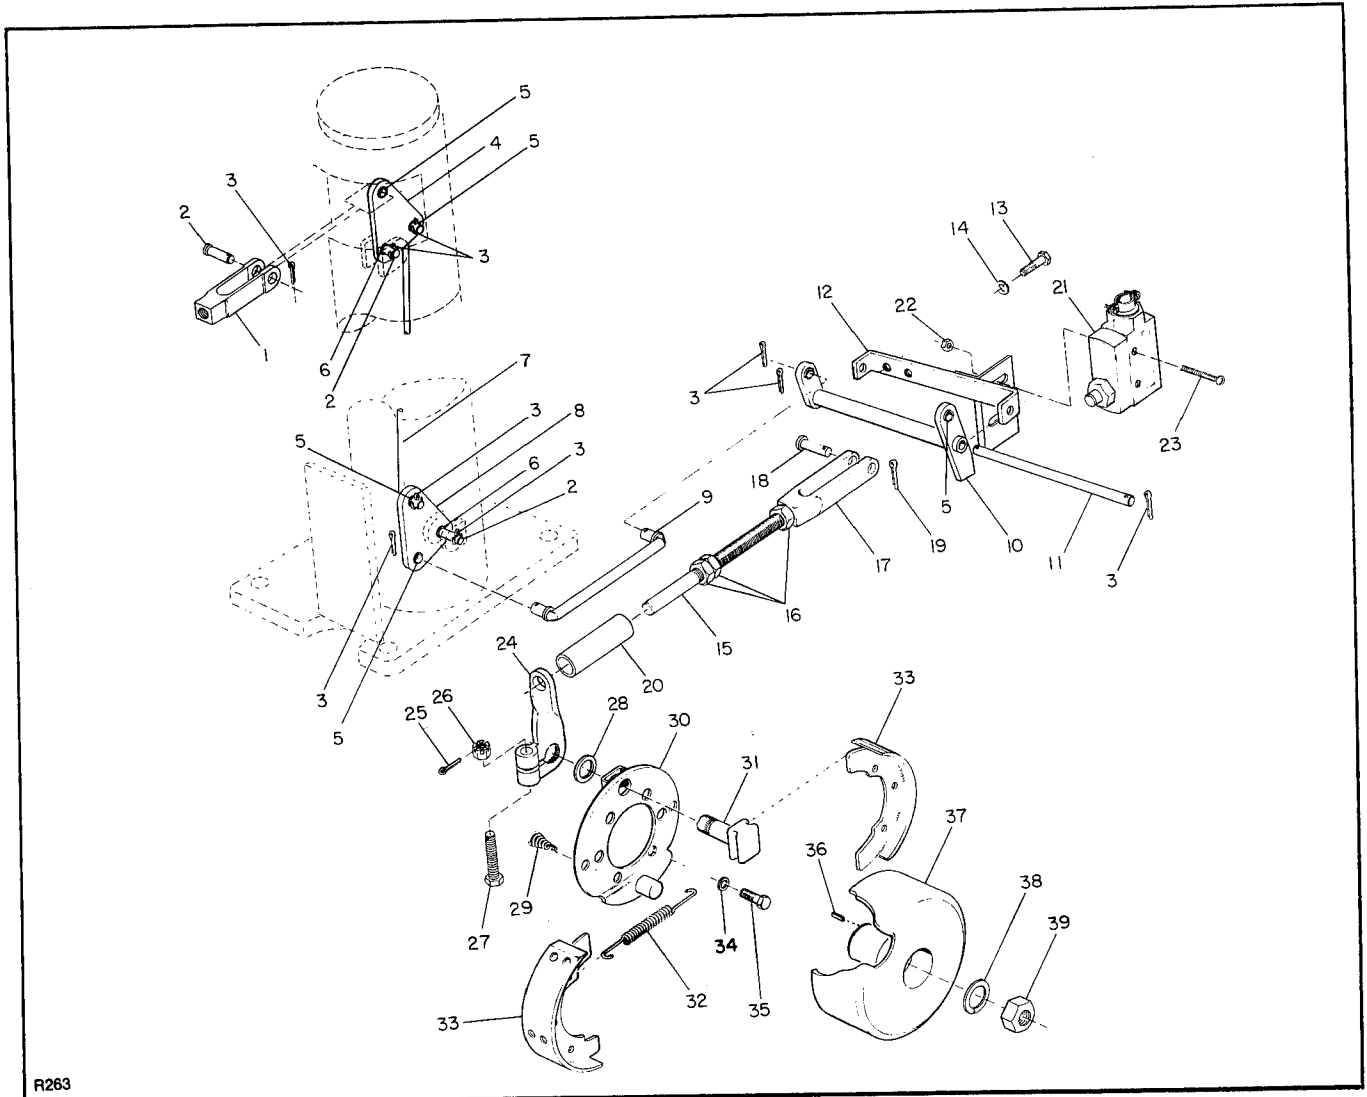
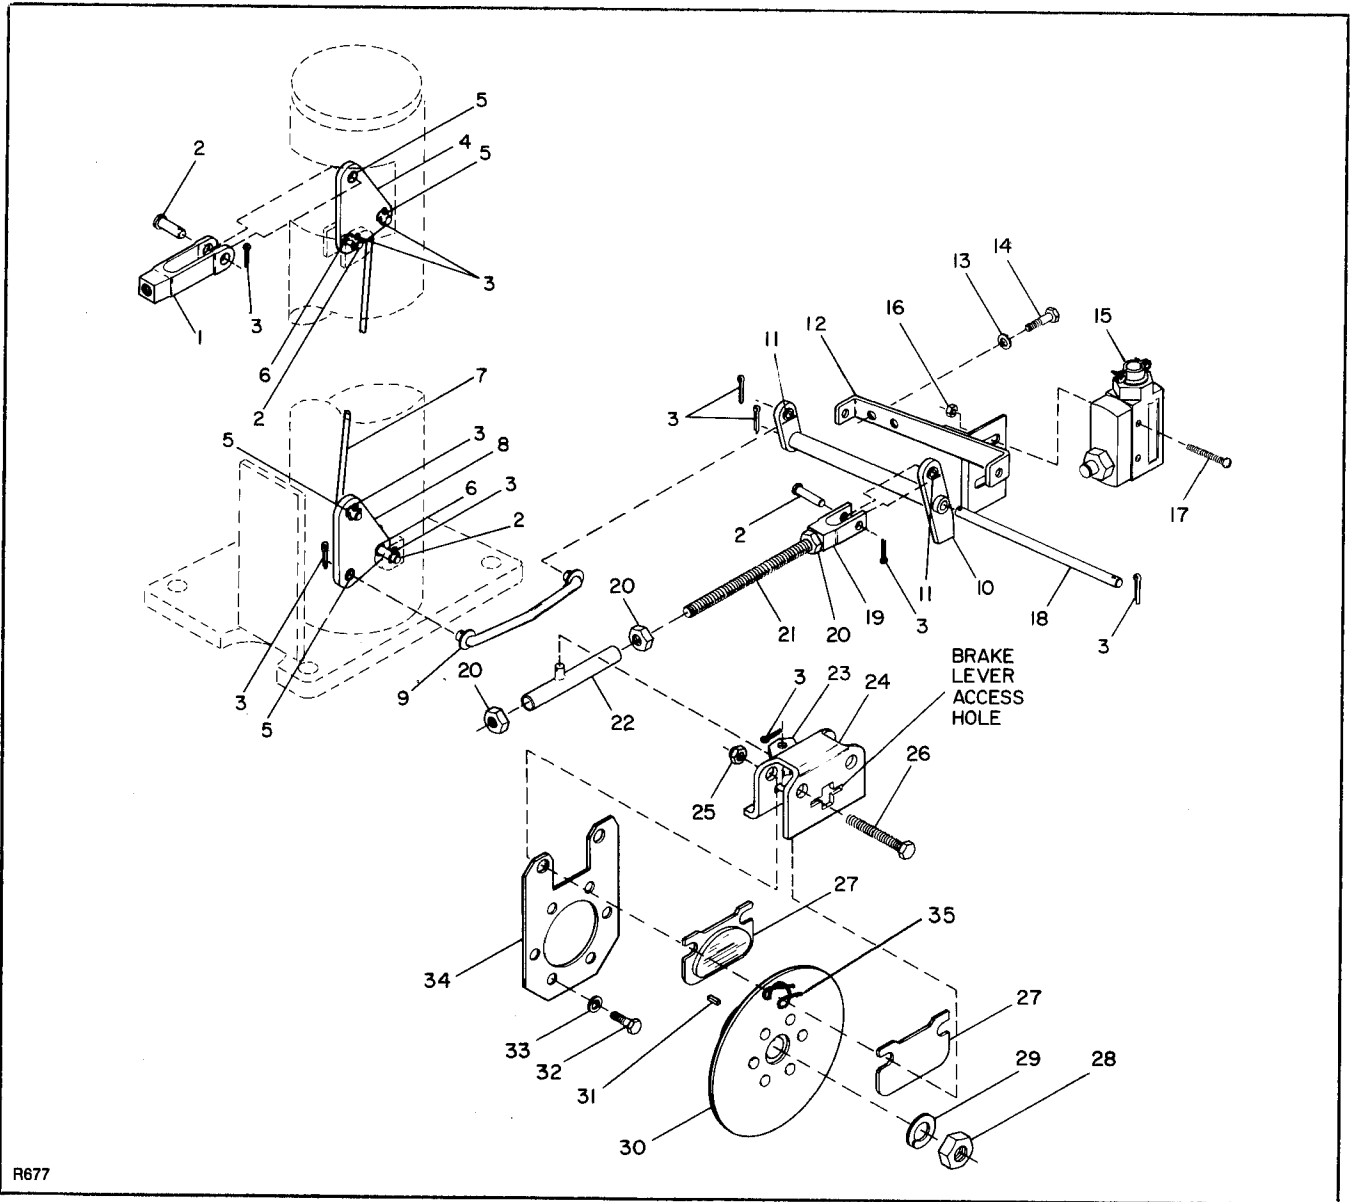

Figure 3-8. Drum Brake and Linkage (Serial Number 70595 and Lower)
Figure 3-9. Disc Brake and Linkage (Serial Number 70596 and Higher)
5. Spin drive wheel by hand and position weldment tube (1) by adjusting nuts (2) until you feel a noticeable drag.
6. Tighten nuts (2) to secure adjustment.
c. Replacement of Drum Brake Shoe (Figure 3-8)
4. Loosen and remove locknut (39) and lock washer (38).
5. Pull the brake drum (37) from the drive motor shaft, being careful to retain key (36).
6. Remove brake shoe return spring (32) and both brake shoe hold-down springs (29).
7. Remove both brake shoes (33).
d. Replacement of Disc Brake Parts. (Figure 3-9)
4. Remove two bolts (26) and nuts (25) to release brake pads (27).
5. If brake pads don't fall free, slide brake pads out from end of clamp (24).
6. Insert replacement brake pads in clamp assembly, one pad on each side of disc (30) with linings toward the disc, and secure pads and clamp with two bolts (26) and nuts (25).
e. Brake Lever Replacement. (Figure 3-9)
2. Remove brake unit. For trucks with drum brake, remove shoes (paragraph 3-13c). Then remove cotter pin (19, figure 3-8) and clevis pin (18), separating the rod clevis from the lower liner assembly. For trucks with disc brake, remove pads (paragraph 3-13d). Then remove lock nut (28, figure 3-9) and lock washer (29). Pull disc (30) from drive motor shaft being careful to retain key (31).